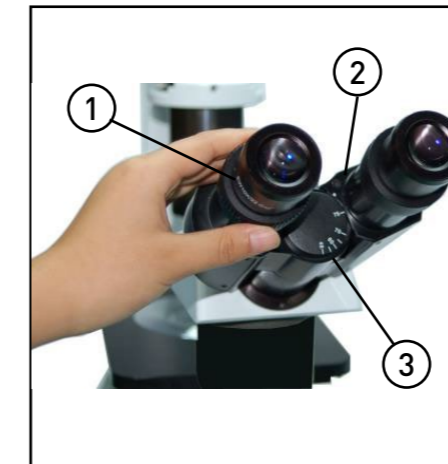

FIGURE 21
4.3.1 Adjusting the diopter (Fig. 21)
! The reticle on the interpupillar distance indicator (3), pointed by the spot "." (2) on the eyepiece holder, shows the scale of the interpupillar distance (fig. 21).